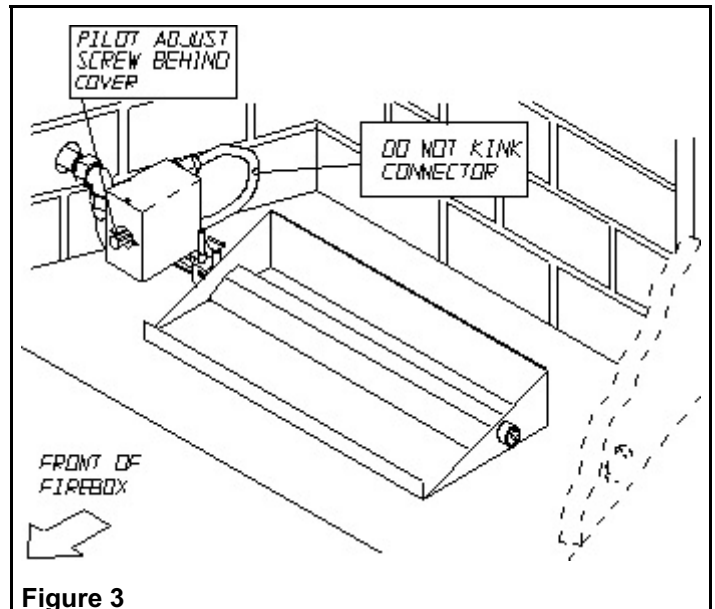

Figure 3
8. Install **heat shield** over safety valve (**fig 3**). Connect remaining pilot lead to valve and tighten. **Be careful not to kink lead.**
3. Position burner base in the center of the fireplace hearth. Apply thread sealant on the incoming gas line and install the connector. The male end of the fitting on the safety valve should point towards the rear of the fireplace. If a flexible, aluminum gas line connector is used (check local codes), be careful not to kink tubing when hand forming to fit between burner pan and incoming gas line (**Figure 3**). It's important that the gas supply line fitting nuts are towards the outside ends; once the line is bent, the fitting nuts will not slide over bends.